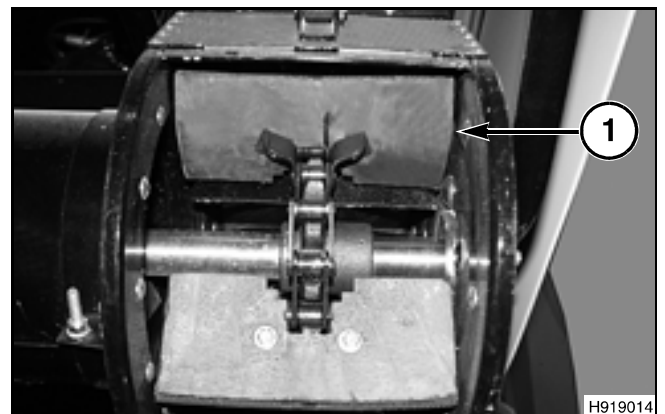

FIG. 523
FIG. 523: The elevator is of the over shot type and discharges material over the top at the upper head. The conveyor chain paddles (1) are fastened to the chain attaching links with capscrews.